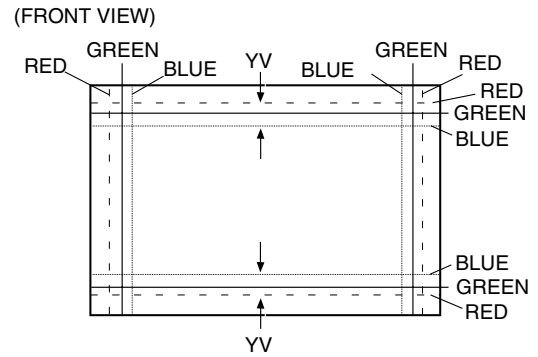

Fig. 6
2. Using the Y_v VR on the deflection yoke, match the Y_v . (Fig. 6)